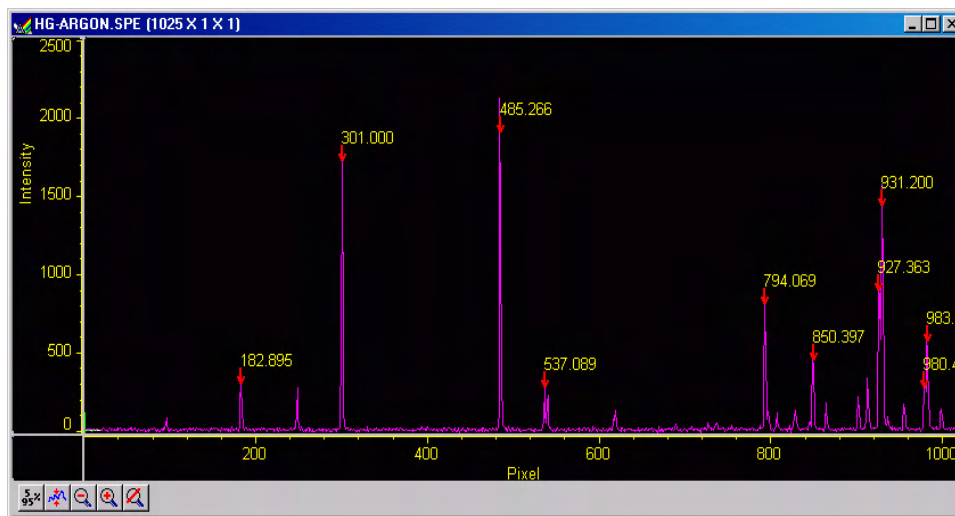

Figure 68. Spectrum after running Find Peaks routine
2. Click on **Find Peaks**. An automatic peak finding routine will be performed. The *maximum* number of peaks is equal to one quarter the number of displayed pixels. The pixel values for the 10 highest peaks will be shown in the Pixel boxes in the Calibration Setup dialog box as shown in Figure 67. Note that the Find Peaks routine causes a small red arrow to be displayed above each peak found in the spectrum together with a notation indicating the peak location in pixels (Figure 68).